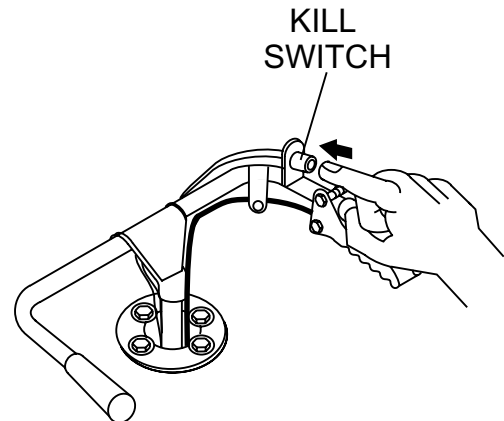

Figure 21. Safety Kill Switch
1. Push the power buggy's kill switch inward (Figure 21) and listen for the engine to stop.